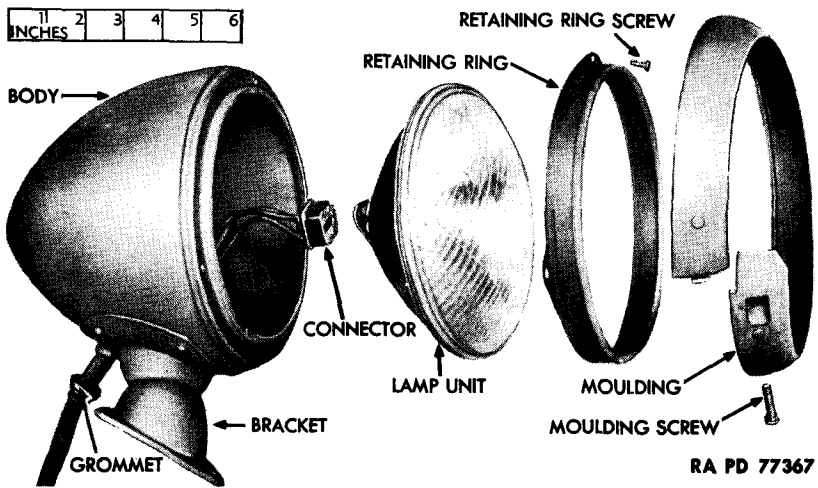

Figure 98 – Headlight Disassembled
(1) **DESCRIPTION** (fig. 98). Two sealed-beam headlights are mounted outside the cowl above the front fenders. The unit, consisting of lens, lamp, and reflector, is held in place by a retaining ring covered by moulding.